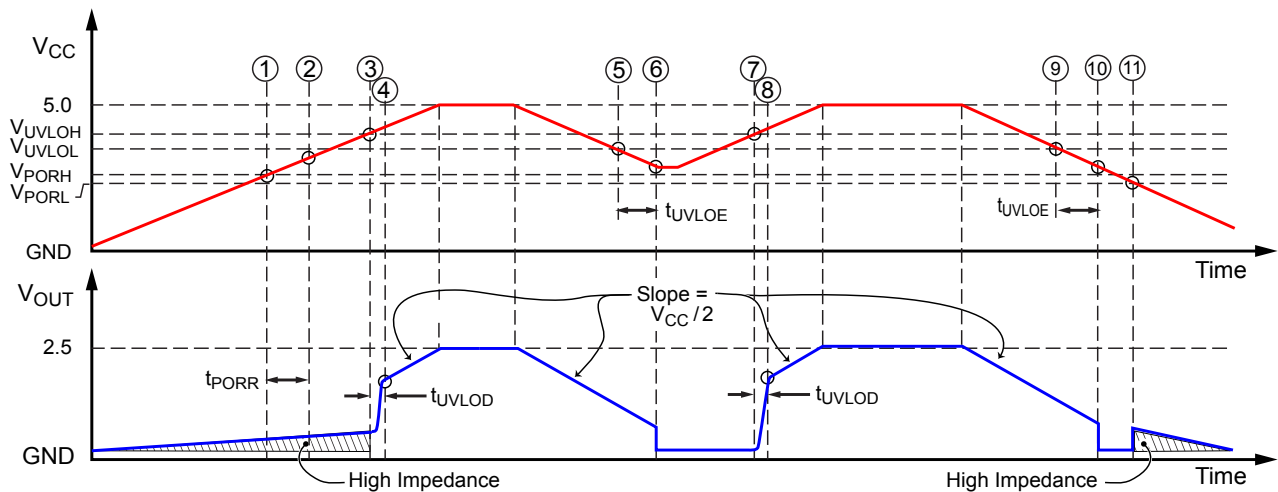
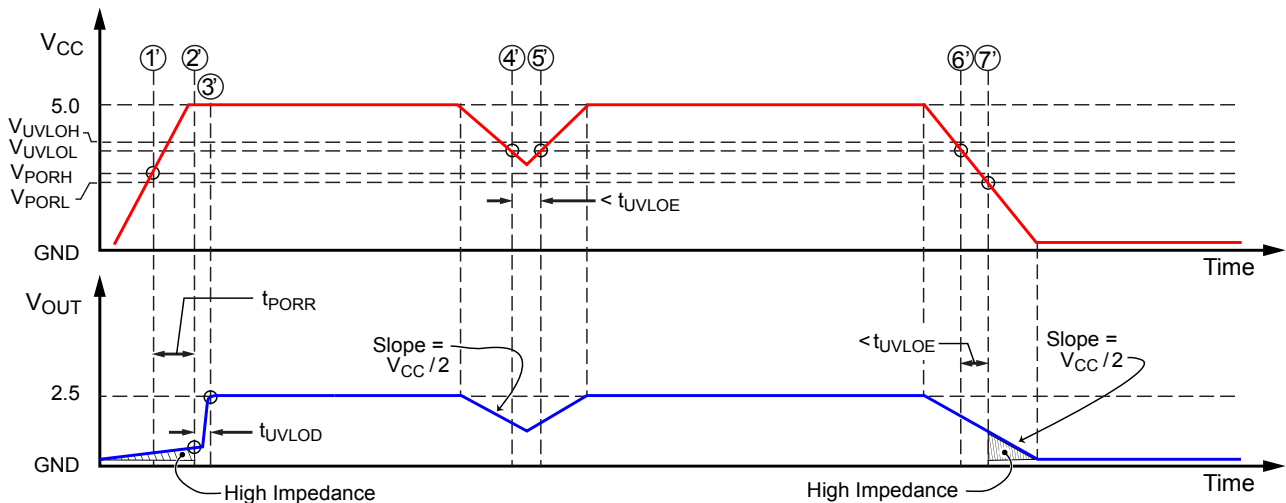

Figure 1: POR and UVLO Operation – Slow Rise Time case
Figure 2: POR and UVLO Operation – Fast Rise Time case
- Power-Up** At power-up, as V_{CC} ramps up, the output is in a high-impedance state. When V_{CC} crosses V_{PORH} (location [1] in Figure 1 and [1'] in Figure 2), the POR Release counter starts counting for t_{PORR} . At this point, if V_{CC} exceeds V_{UVLOH} [2'], the output will go to $V_{CC}/2$ after t_{UVLOD} = 14 μs [3']. If